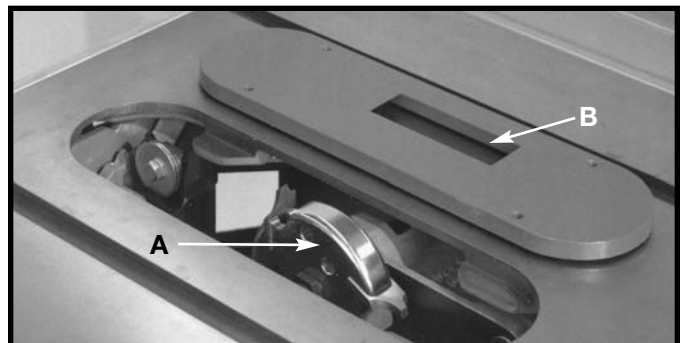

Fig. 69
1. A moulding cutterhead (A) Fig. 69 is shown assembled to the saw arbor. Also, the accessory moulding cutterhead table insert (B) must be used in place of the standard table insert.